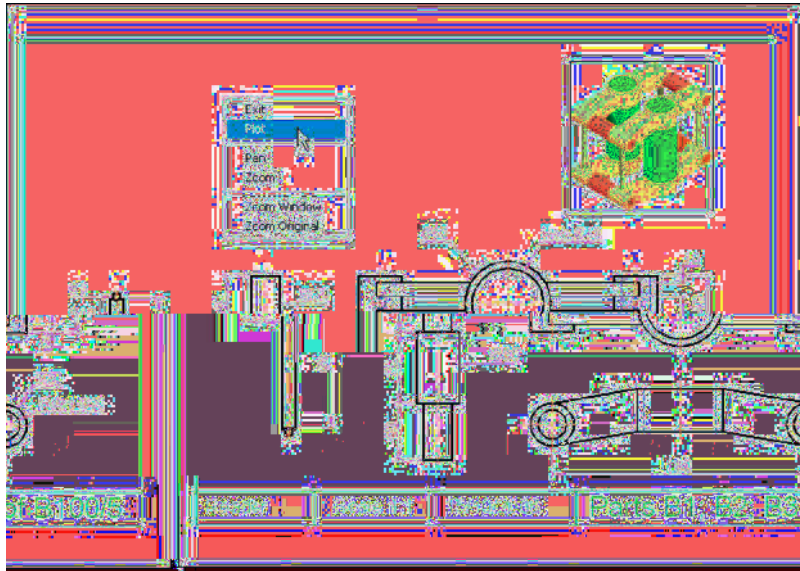

Fig. 19.9 Second example – Printing/plotting
### Second example – **Printing/plotting** (Fig. 19.9)
4. If satisfied with the preview (Fig. 19.9), right-click and in the menu which appears click the name **Plot**. The drawing plots.